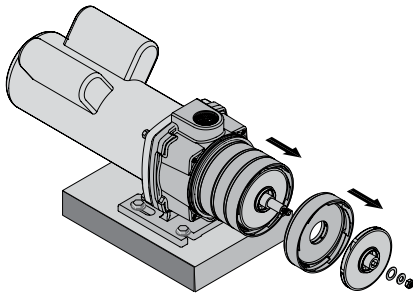

Figure 4
7. Remove the motor canopy. Hold the motor shaft with a 7/16" open end wrench and remove the nut and two washers (Ref. Nos. 14, 13, 12) from the end of the shaft. See Figure 4.
8. Slide the impellers and diffusers (Ref. Nos. 11, 10) off of the shaft (Figure 4).